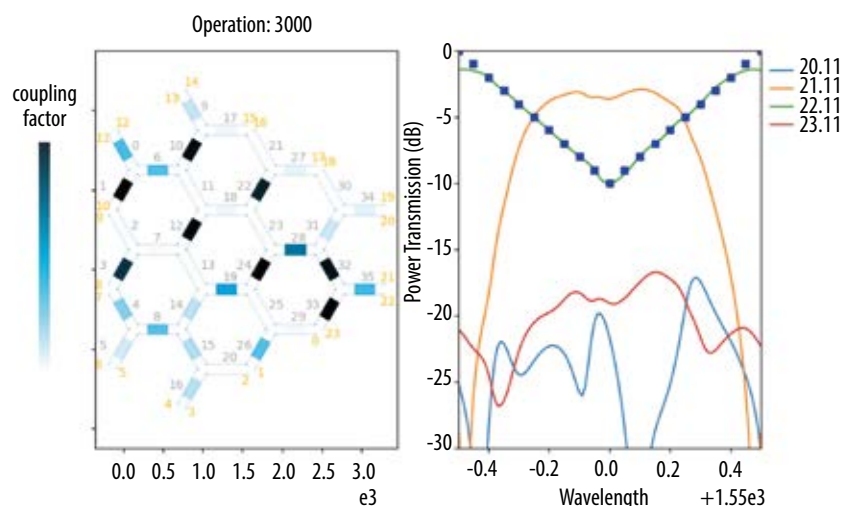

Fig. 4 Adaptive reconfigurable V-shape profile equalizer between 0 and -10 dB for 1 nm, centered at 1,550 nm, programmed in a waveguide mesh arrangement.
1. Photonic processors can emulate a tunable 2×4 or 2×8 hybrid with perfectly balanced power-splitting behavior, and emulate tunable power equalizers to match the requirements of balanced detection, reducing all the associated costs. It would allow the device to perform 90° hybrid operation with exactly balanced splitting by reconfiguration. In Fig. 4, we show the profiles of an automated adaptive reconfigurable equalizer that can be programmed in a waveguide mesh arrangement when the selected optical channel travels through ports 11 (input) and 22 (output). Interested readers might check reference [3] for more details.